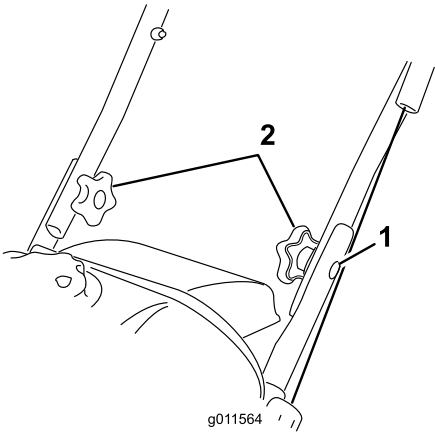

Figure 3
2. Insert the oval-head bolts into the aligned holes, with the bolt heads on the outside of the handle (Figure 3).
1. Oval-head bolt (2)
3. Install the curved washers and the handle knobs on the oval-head bolts on the inside of the handle (Figure 3) and **tighten the knobs securely.**